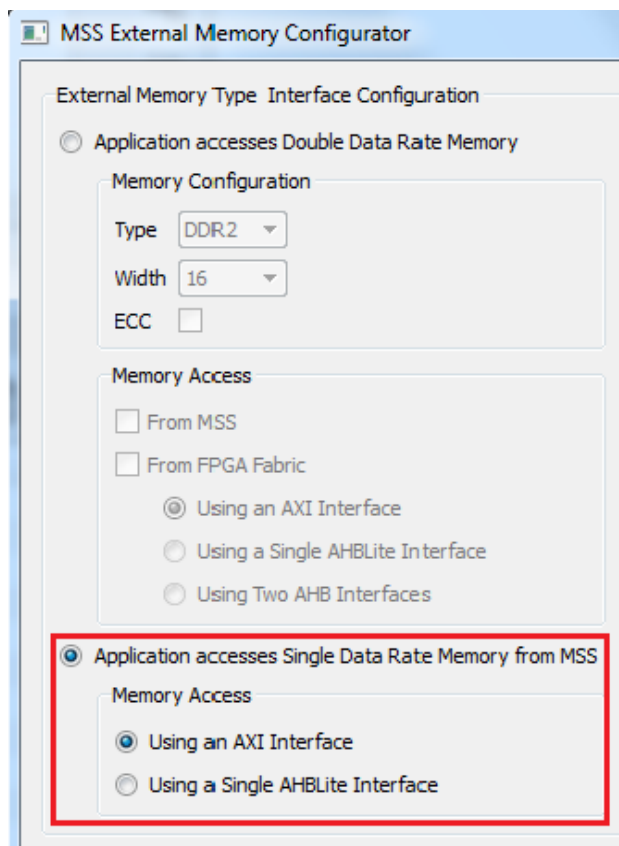

Figure 4-3 • MSS External Memory Configurator
The SMC_FIC can be enabled and configured through the MSS external memory configurator, which is part of the MSS configurator in the Libero SoC design software. Figure 4-3 on page 234 shows the MSS external memory configurator. The external memory type interface must be selected as "**Application Accesses Single Data Rate Memory from MSS**" to enable the SMC_FIC.
3. Configure the external memory interface type and select **Using an AXI Interface**, as shown in Figure 4-3.